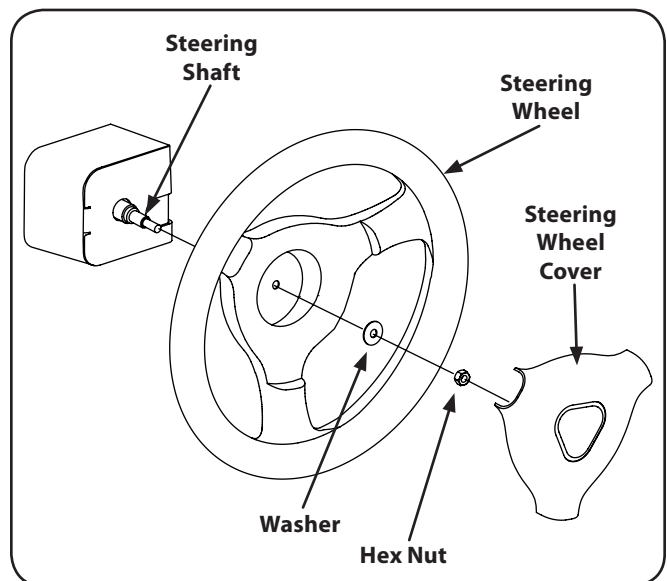

Figure 3-6
1. Slide steering wheel over the steering shaft. See Fig. 3-6.